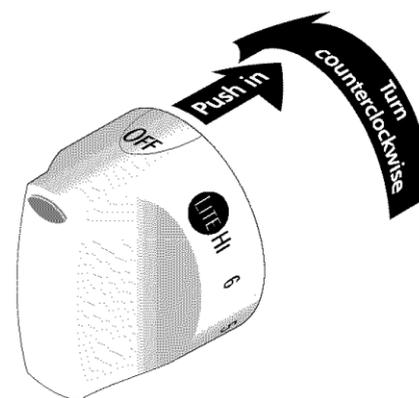

Fig. 41
1. To check for proper lighting, **push in and turn** a surface burner knob **counterclockwise** to the **LITE** position. You will hear the igniter sparking (See Fig. 41).
2. The surface burner should light when gas is available to the top burner. Purge air from supply lines by leaving knob in the **LITE** position until burner ignites. Each burner should light within four (4) seconds in normal operation after air has been purged from supply lines.